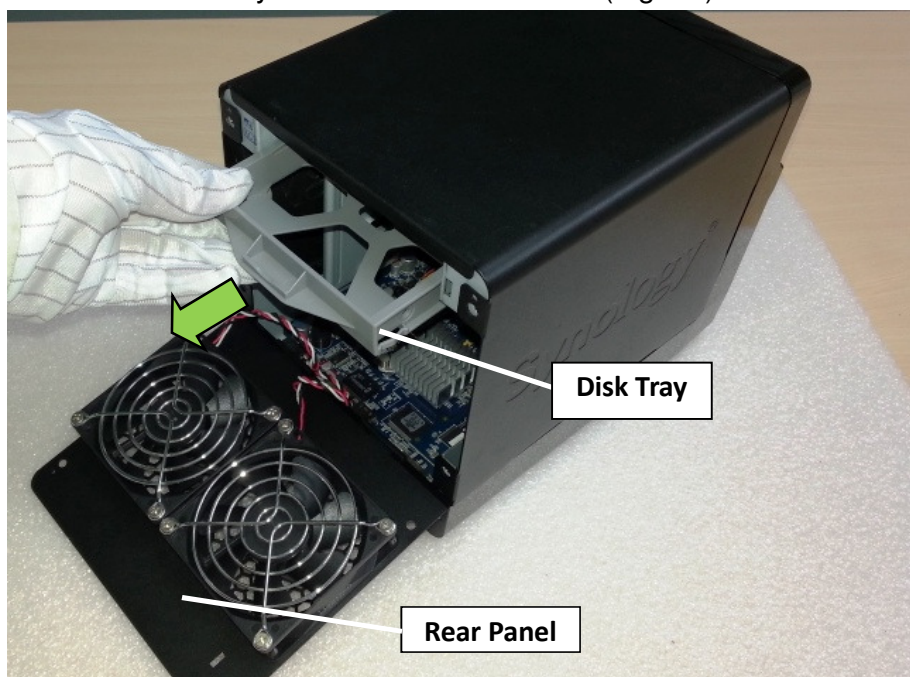

Fig. 46
3.1.3 Remove all the disk trays from the HDD chassis. (Fig. 46)